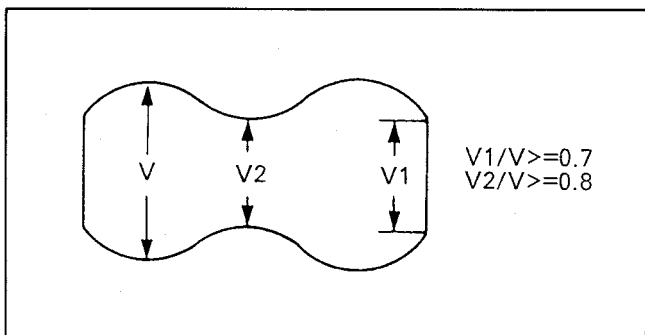

Fig. M12 Spec. of Envelope Figure
8. Set the tracking control into centre fix position and adjust for maximum RF envelope. If the RF envelope does not meet these specifications,  $V1/V > 0.7$ ,  $V2/V > 0.8$  (Refer to Fig.M12) then repeat steps 1-8 again.